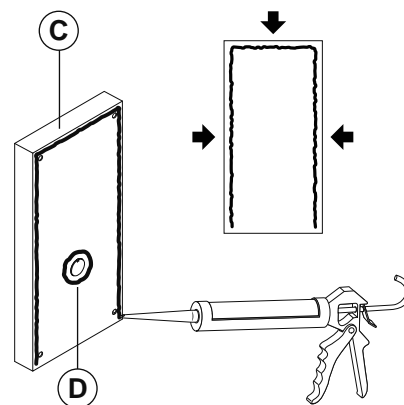

Fig. 36
**In order to prevent water ingress we highly recommend using a silicon sealant between the wall and the back box **(C)**, ON THE LEFT, TOP AND RIGHT SIDES ONLY AND AROUND ALL THE HOLES **(D)** . DON'T USE SILICON SEALANT ON THE BOTTOM SIDE OF THE BACK BOX (**Fig.36**);**